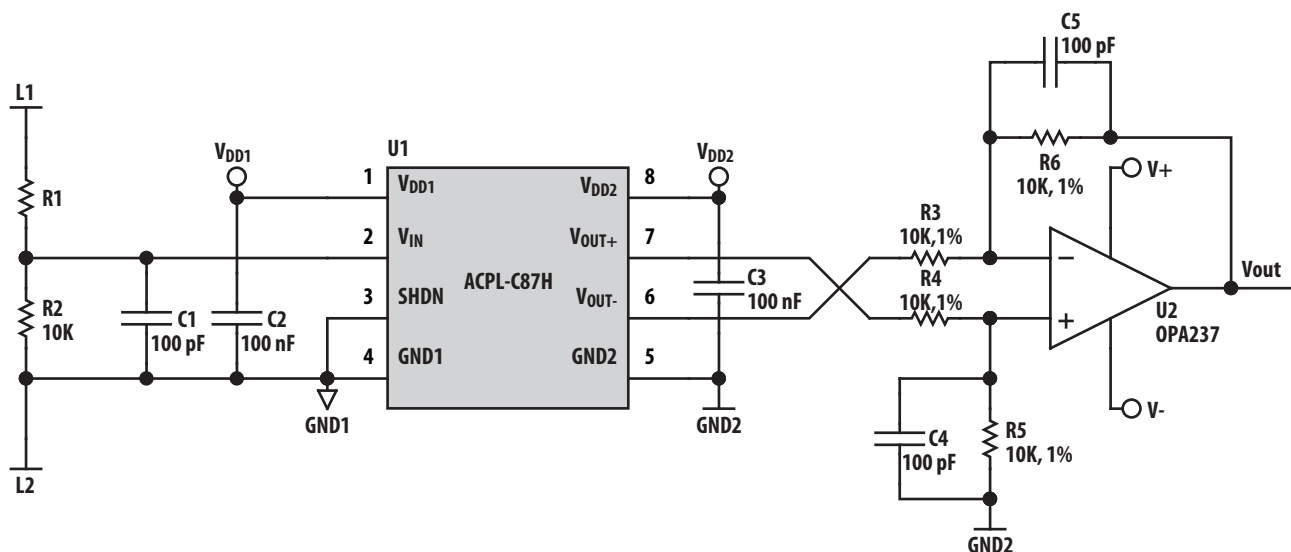
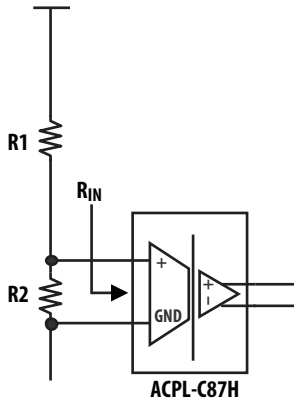

Figure 19. Typical application circuit.
Figure 20. Simplified Input Stage.
The typical application circuit is shown in Figure 19. The ACPL-C87H voltage sensor is often used in photovoltaic (PV) panel voltage measurement and tracking in PV inverters, and DC bus voltage monitoring in motor drivers. The high voltage across rails needs to be scaled down to fit the input range of the iso-amp by choosing R1 and R2 values according to appropriate ratio.
The input stage of the typical application circuit in Figure 19 can be simplified as the diagram shown in Figure 20.  $R_2$  and  $R_{IN}$ , input resistance of the ACPL-C87H, create a current divider that results in an additional measurement error component that will add on to the tot on top of the device gain error. With the assumption that  $R_1$  and  $R_{IN}$  have a much higher value than  $R_2$ , the resulting error can be estimated to be  $R_2/R_{IN}$ .